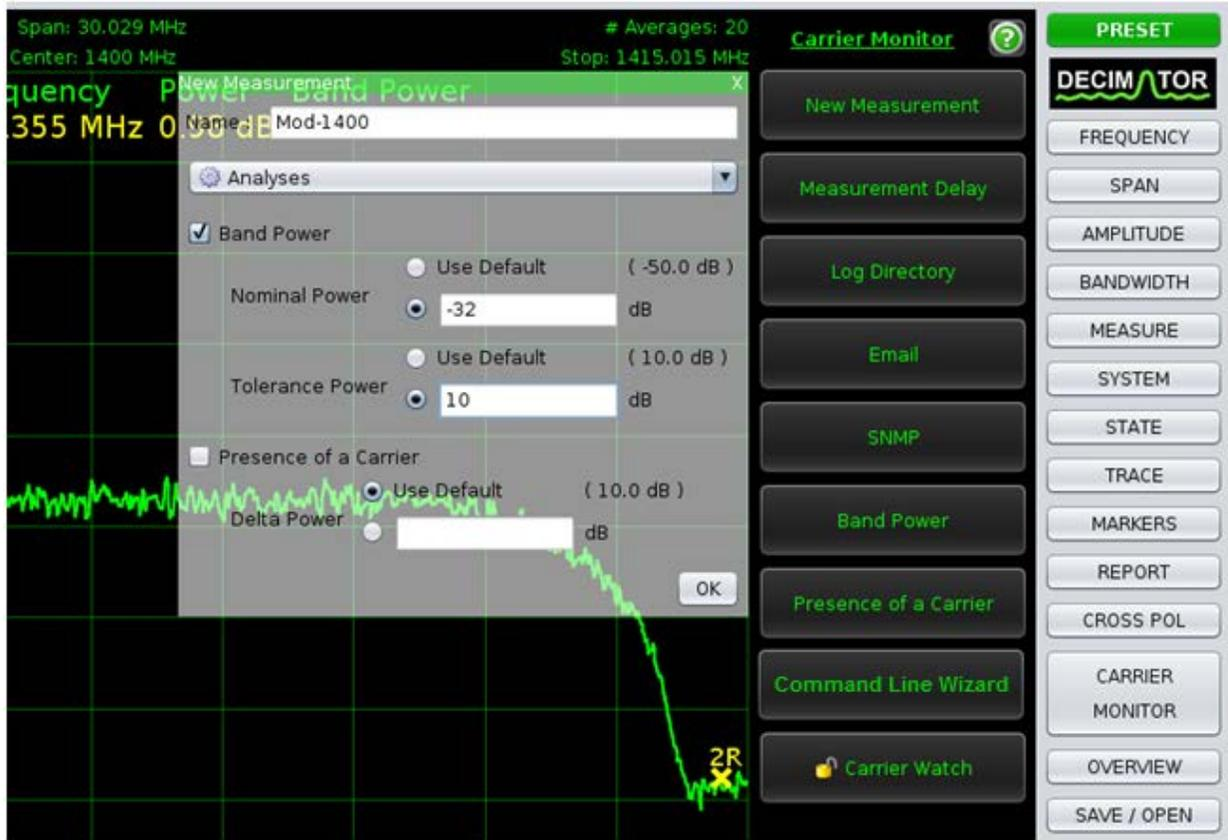

Figure 12 New Measurement
- Check the Band Power Analysis and override the default values for Nominal Power = -32 dBm and Tolerance Power 10 dB. This provides an operational threshold limit from -22 dBm to -42 dBm. You should see something like shown in Figure 12. Click OK.